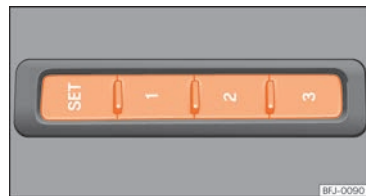

Fig. 79 On the outer side of the driver seat: memory buttons.
- Press **SET** for longer than 1 second >>> Fig. 79.